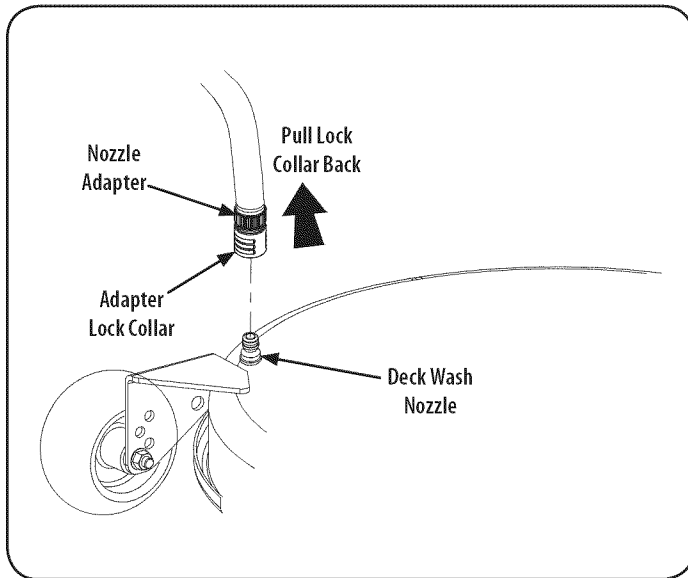

Figure 33
3. Pull back the lock collar of the nozzle adapter and push the adapter onto the deck wash nozzle at the left end of the mower deck. Release the lock collar to lock the adapter on the nozzle. Refer to Figure 33.